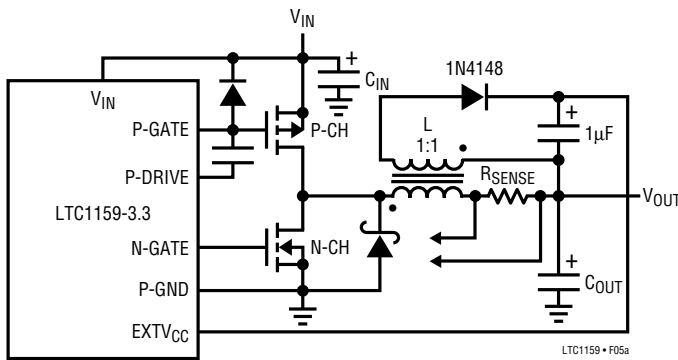
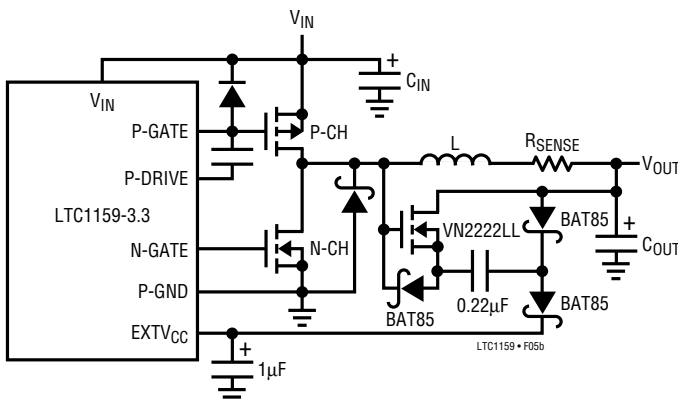

Figure 5a. Inductive Boost Circuit for EXTVCC
Figure 5b. Capacitive Charge Pump for EXTVCC
- EXTVCC Connected to an Output-Derived Boost Network. For 3.3V and other low voltage regulators, efficiency gains can still be realized by connecting EXTVCC to an output-derived voltage which has been boosted to greater than 4.5V. This can be done either with the inductive boost winding shown in Figure 5a or the capacitive charge pump shown in Figure 5b. The charge pump has the advantage of simple magnetics and generally provides the highest efficiency at the expense of a slightly higher parts count.